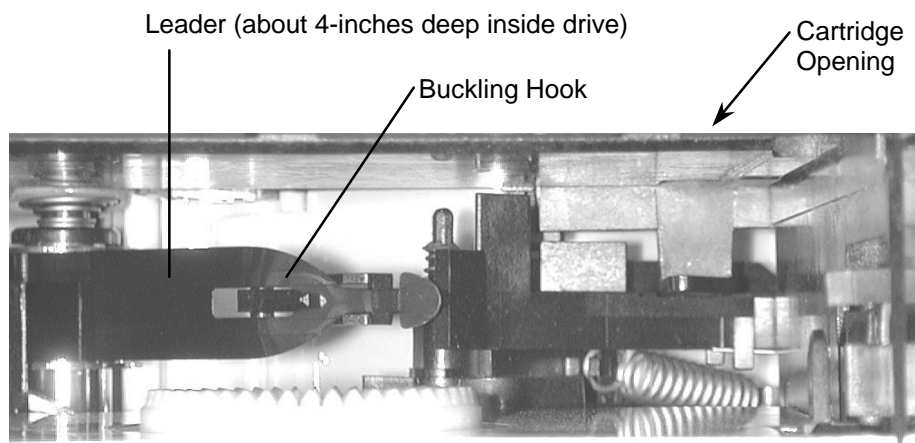

Figure 5 Quantum DLT Tape Drive Leader shown in its normally hooked position
- If the drive is unloaded, look inside to see if the leader is on the buckling hook. If not, it will have to be repaired. See Figure 5.